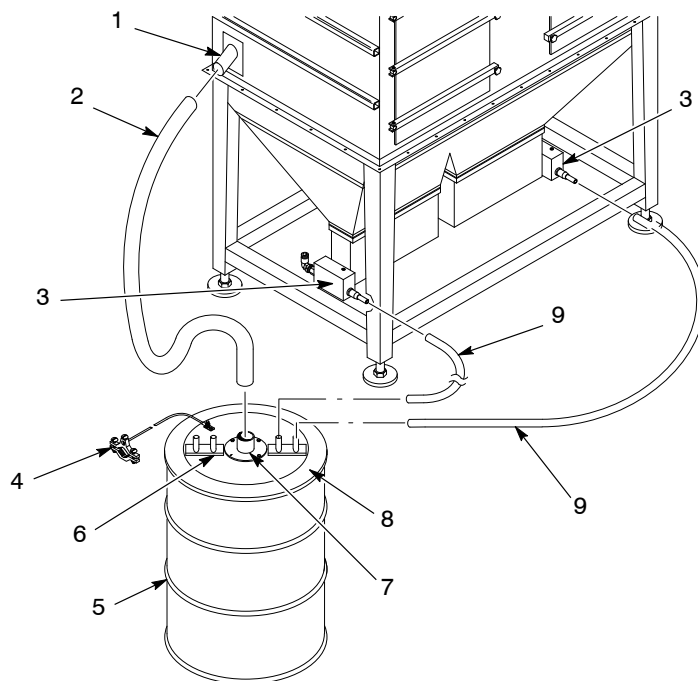

Figure 5-1 Emptying the Waste Hoppers
1. See Figure 5-1. Install the waste lid (8) on an empty 55-gallon drum (5).
2. Connect the ground clamp (4) to a true earth ground.
3. Attach $\frac{3}{4}$ -in. transfer hoses (9) between the transfer pumps (3) and the hose connectors (6) on the waste lid. Use hose clamps on both ends of the transfer hoses.